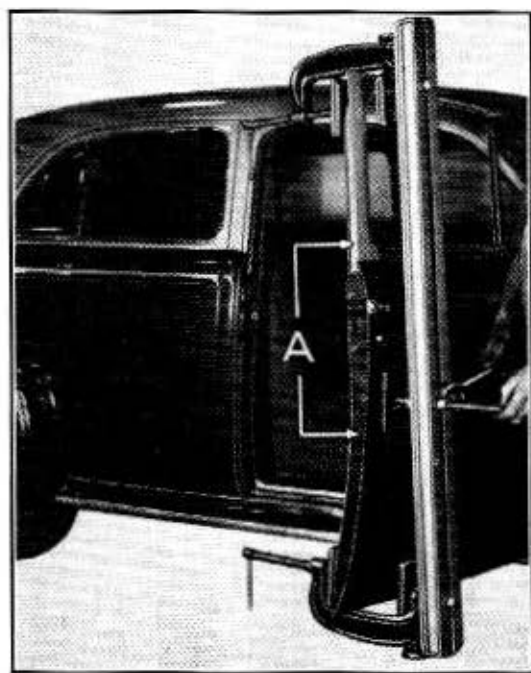

Fig. 1-96. Method of Straightening Door with New Improved Door Bar
- form to body pillar at the belt line, see Fig. 1-96.
- as indicated along "A", Fig. 1-96, to equalize